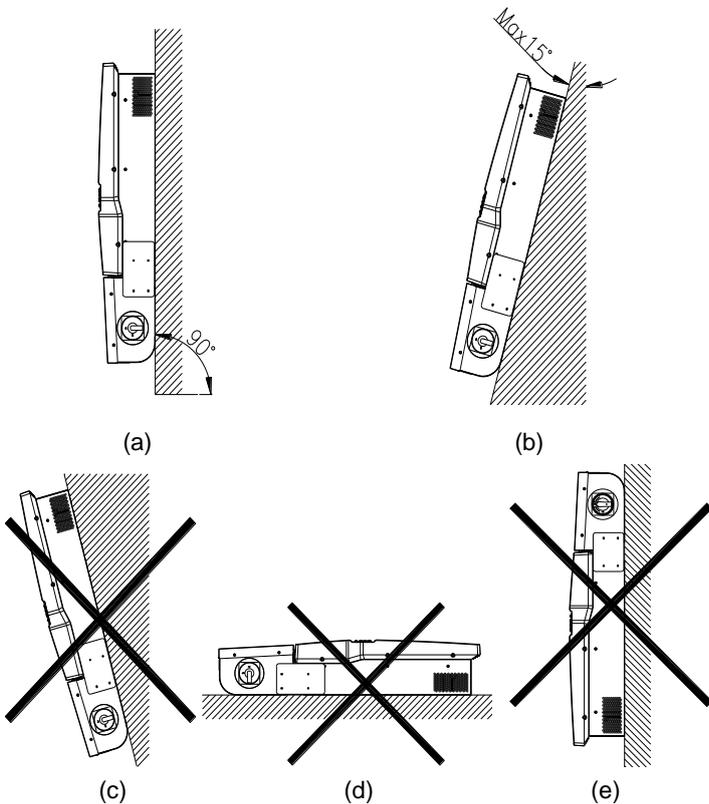

Figure 3-2 Mounting the inverter properly
(2) Installation method (see Figure 3-2):